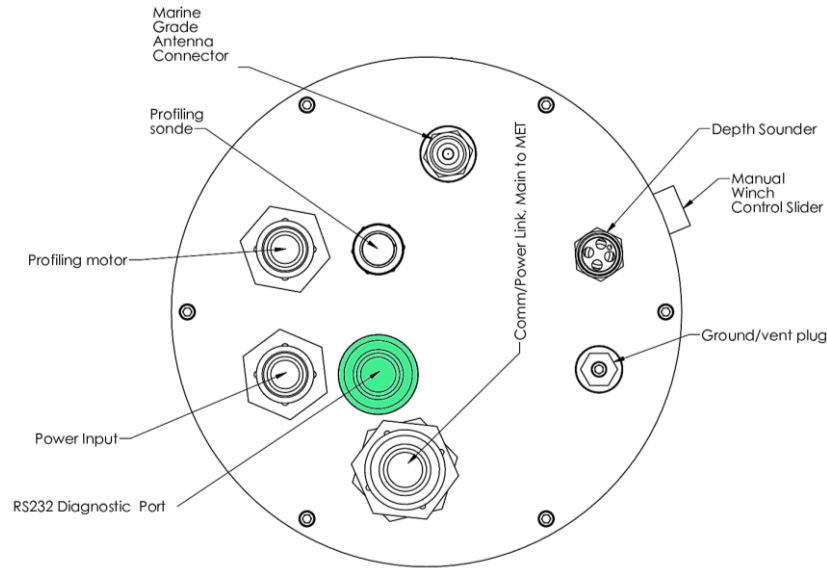

Figure 34. RS-232 Diagnostic Port on Profile Canister (Lower Canister) in Green
2. Connect a laptop to the Controller Assembly using the diagnostic cable. Attach the buoy serial cable to the RS-232 diagnostic port on the profiler (lower) canister to a laptop using a USB to serial adapter. Figure 34 displays the RS-232 diagnostic port in green.